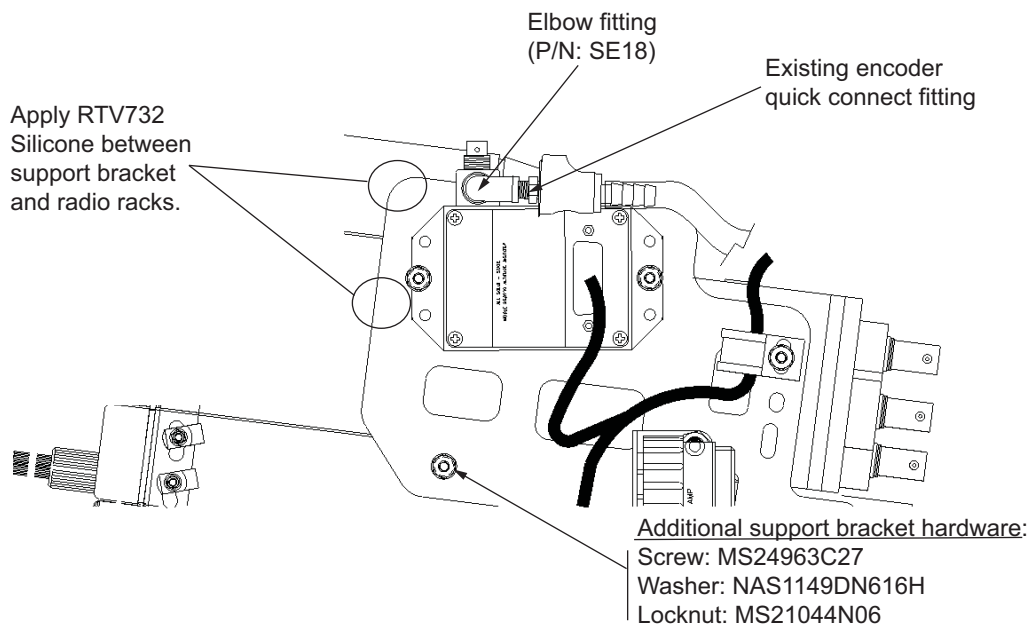

Figure 4
- 10.6.5 Remove the quick-connect fitting from the encoder and install the removed elbow fitting (P/N SE18) into the encoder and install the encoder quick connect fitting into the elbow fitting, as shown in Figure 4.
- 10.6.6 Apply RTV732 silicone (or equivalent) between the support bracket and radio rack. Refer to Figure 4.
- 10.6.7 Install the additional support bracket hardware as shown in Figure 4.